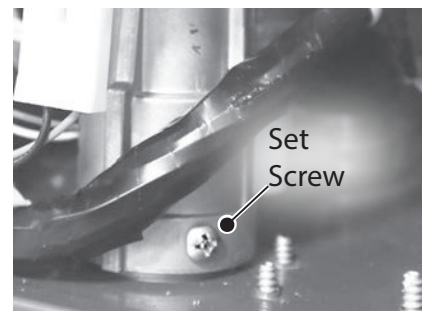

Figure 79 - Gas valve set screw
- 7 Locate the set screw on the bottom flange of the gas valve. Remove set screw and carefully disconnect gas inlet connector from gas valve. Place set screw aside in a safe place for reinstallation. See Figure 79.